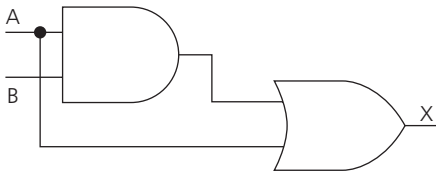

Figure 8 Logic circuit for $X = A + A.B$
Logic gates can be combined together to form **logic circuits** that can also be described using Boolean algebra. Consider the Boolean expression $A + A.B$. This contains an AND function $A.B$ and an OR function $A + A.B$, so, to get the result expressed by this algebra, both an AND gate and an OR gate must be present in the circuit one after the other. The logic circuit is shown in Figure 8.
1. For the logic circuit in Figure 8, state, in Boolean algebra,
- c. The (incomplete) truth table for the logic circuit in Figure 8 is shown below. Copy and complete the table.